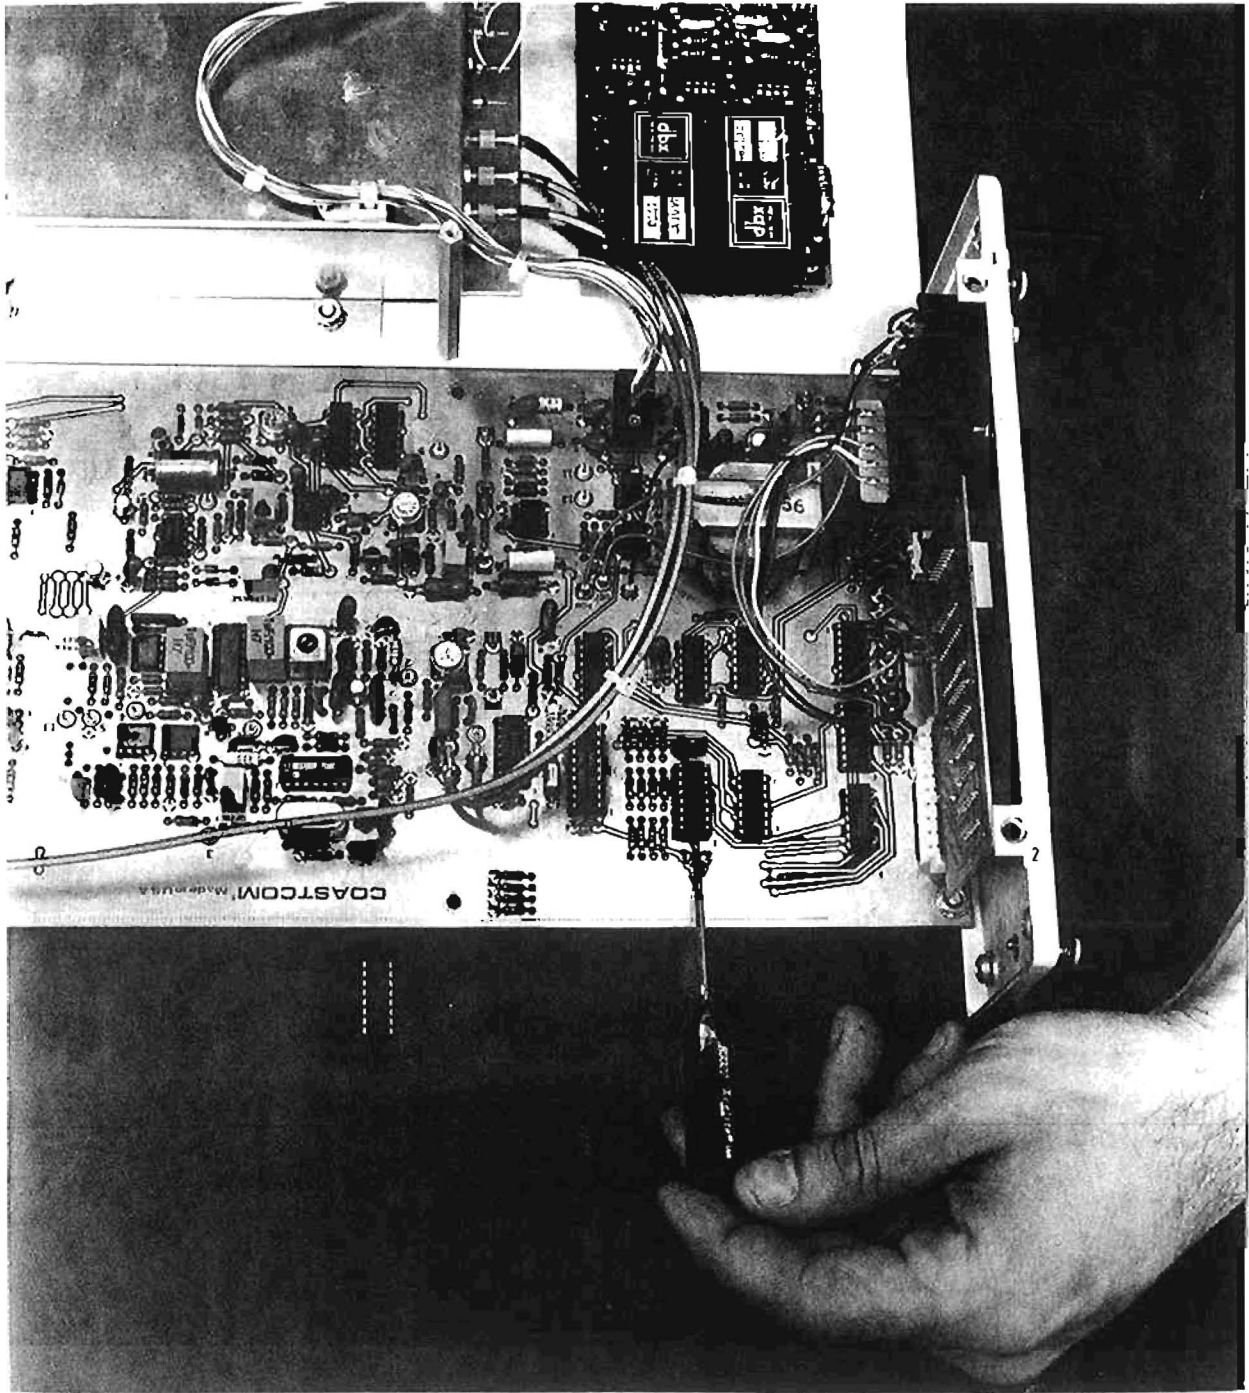

FIGURE NO. 4
- 5) Refer to figure No. 4 - Locate integrated circuit U5. With a thin bladed screwdriver or similar tool, gently pry U5 from its socket. Note the location of Pin "1" of integrated circuit U5.